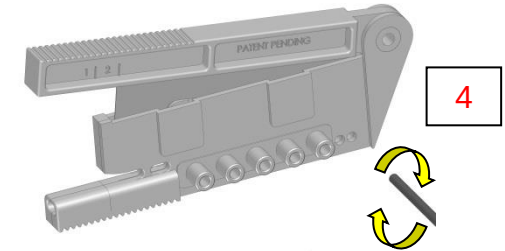
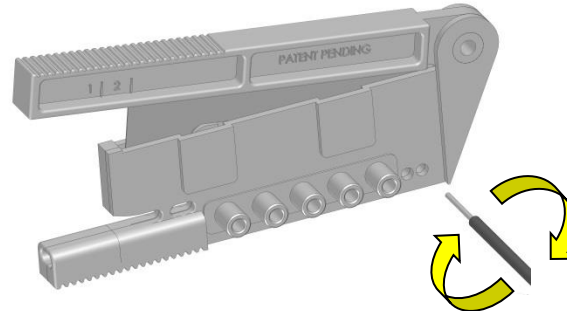

Fig 4
Fig 5
3. To strip the fiber, insert the fiber into the tool and close the tool. Keep the tool closed then rotate at least 1 ½ turns (Figure 4) Then pull outward to remove the jacket. (Figure 5)
5. If you are using duplex cable, Line up the second fiber to the seam of the tool as shown in Figure 5 and then remove that jacket as well.